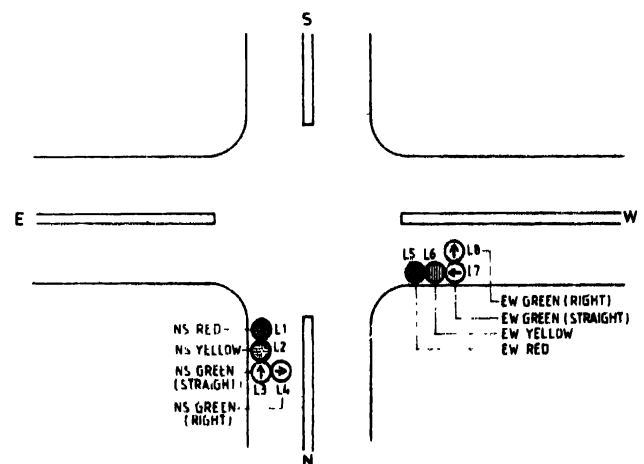

Fig. 1: Typical traffic light system on the road crossing.
Have you ever noticed the actual sequence of traffic lights at some busy crossing? Well, let us have a look at a traffic crossing and write down the sequence. Fig. 1 shows two roads—one in North-South (NS) direction and the other in East-West (EW) direction. In this figure we have not shown the lights at the South and East ends. Lights at the South and East ends are similar to lights at North and West ends respectively. So, when the traffic for South to North is open green lamp no. 3 is on, the North to South traffic will also be open. In other words, the lights at the two opposite ends are connected in parallel.